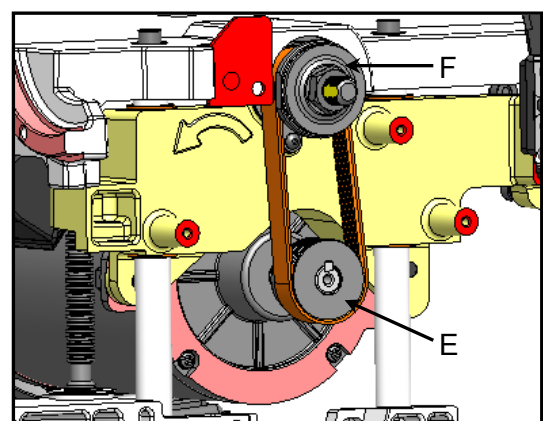

Fig. 35
5. Roll the belt off of the arbor pulley F and motor pulley E, Fig.35 (turn the belt sideways and slide it down will easier remove belt).